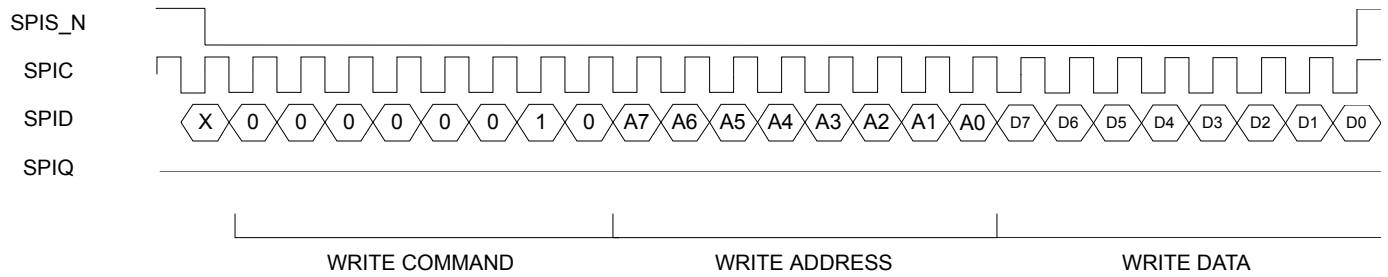
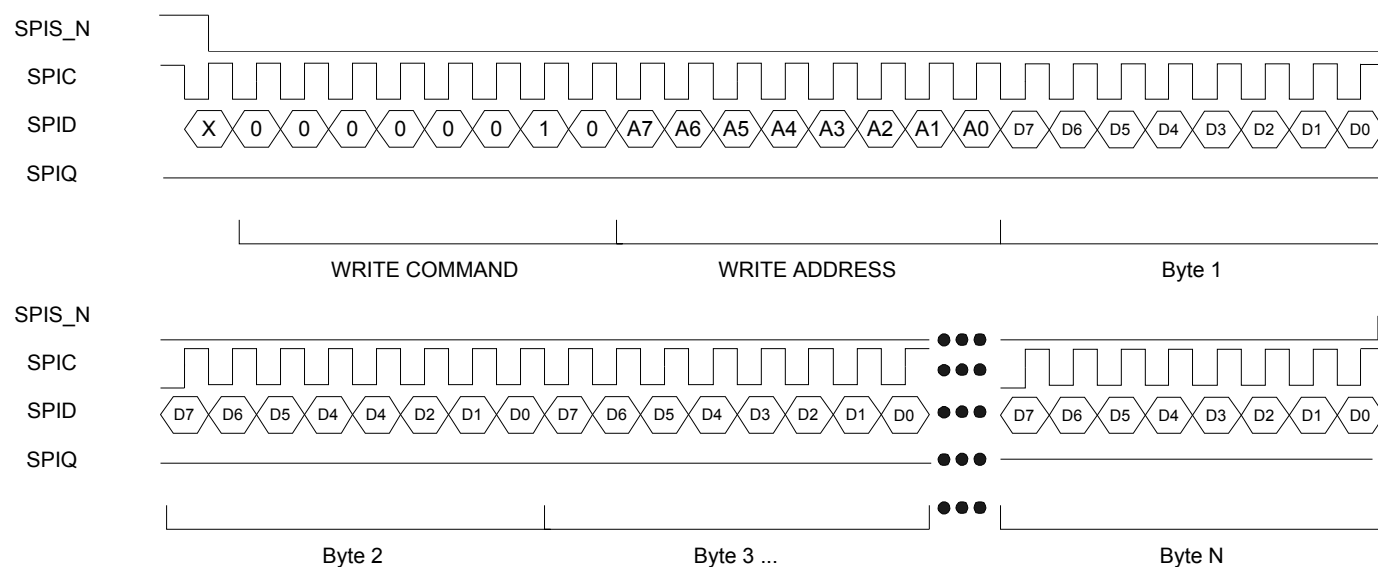

Figure 9. SPI Write Data Cycle
Figure 11. SPI Multiple Write
4. Write configuration to registers using a typical SPI write data cycle as shown in Figure 9 or SPI multiple write as shown in Figure 11. Note that data input on SPID is registered on the rising edge of SPIC.